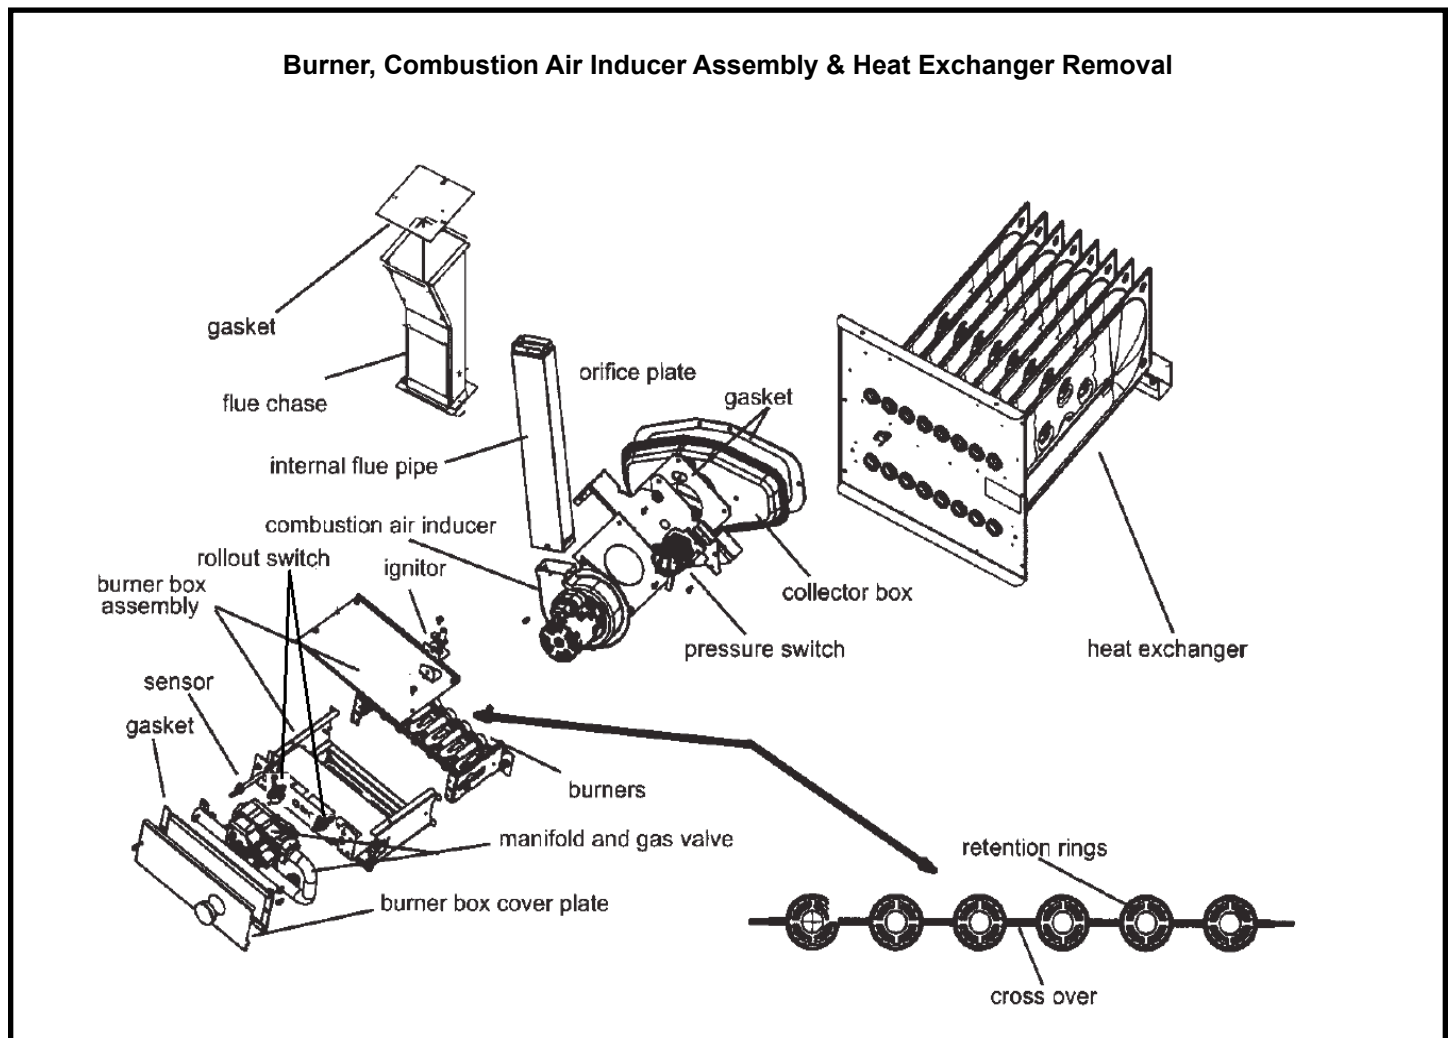

Figure 31
11. To clean burners, run a vacuum cleaner with a soft brush attachment over the face of burners. Visually inspect inside the burners and crossovers for any blockage caused by foreign matter. Remove any blockage. Figure 31 shows burner detail.